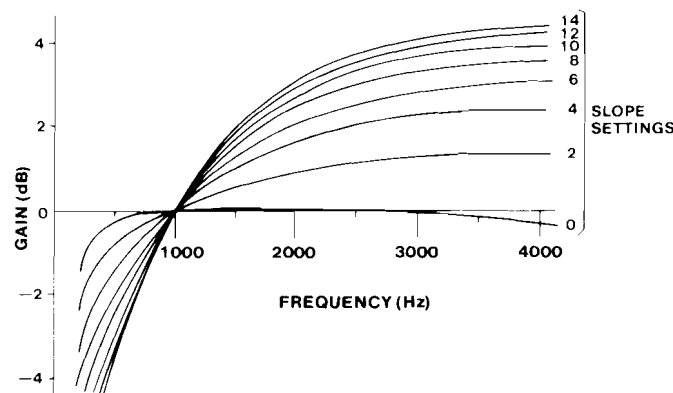
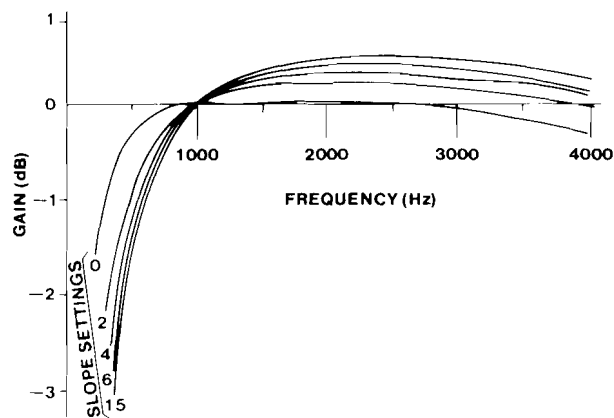

figure 2. Typical response curves for 9908 in slope mode, nonloaded cable
figure 3. Typical response curves for 9908B in slope mode, loaded cable
1.04 Figures 2 and 3 show typical response curves for the 9908B equalizer in the slope mode. Figure 2 shows the curves for nonloaded cable, while figure 3 shows the curves for loaded cable. For comparison purposes, all frequency-response curves in figures 2 and 3 are drawn with the same 0dB-gain reference point (1004Hz). Actually, all of these curves except for those for a *SLOPE* switch setting of 0 are raised above the 0dB level at 1004Hz by as much as 11.4dB. The exact amount by which a particular curve is raised depends upon